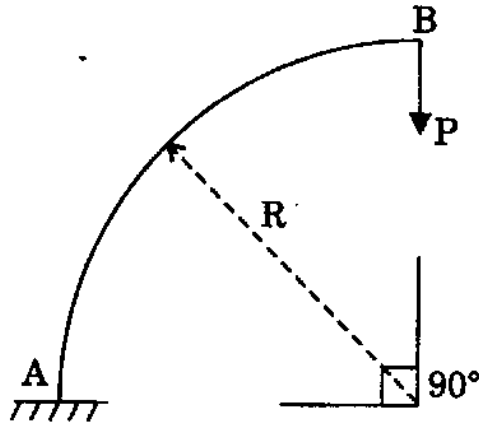

Figure 3
- (d) Determine the vertical deflection at the free end of a circular cantilever frame shown in Figure 3 using the unit load method. Take  $EI = \text{constant}$ . 5